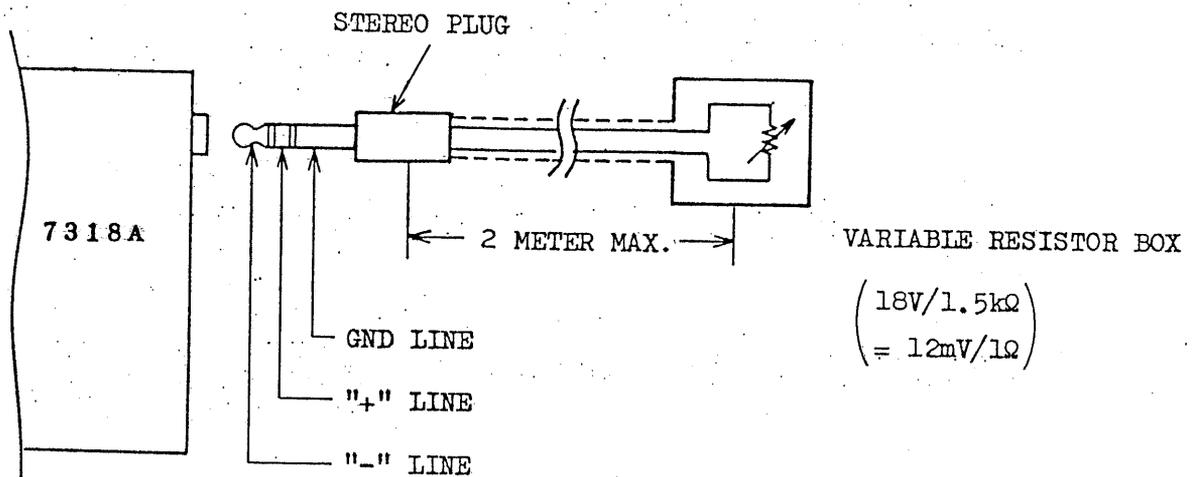

Fig. 8
- 1) Connect the Stereo plug with the variable resistor box using a 2-core shielded cable as shown in Fig. 8. (The length of the shielded cable should not exceed approximately 2 meters.) Connect the two core wires of the cable to the "+" and "-" lines and the shielding braid to the GND line.